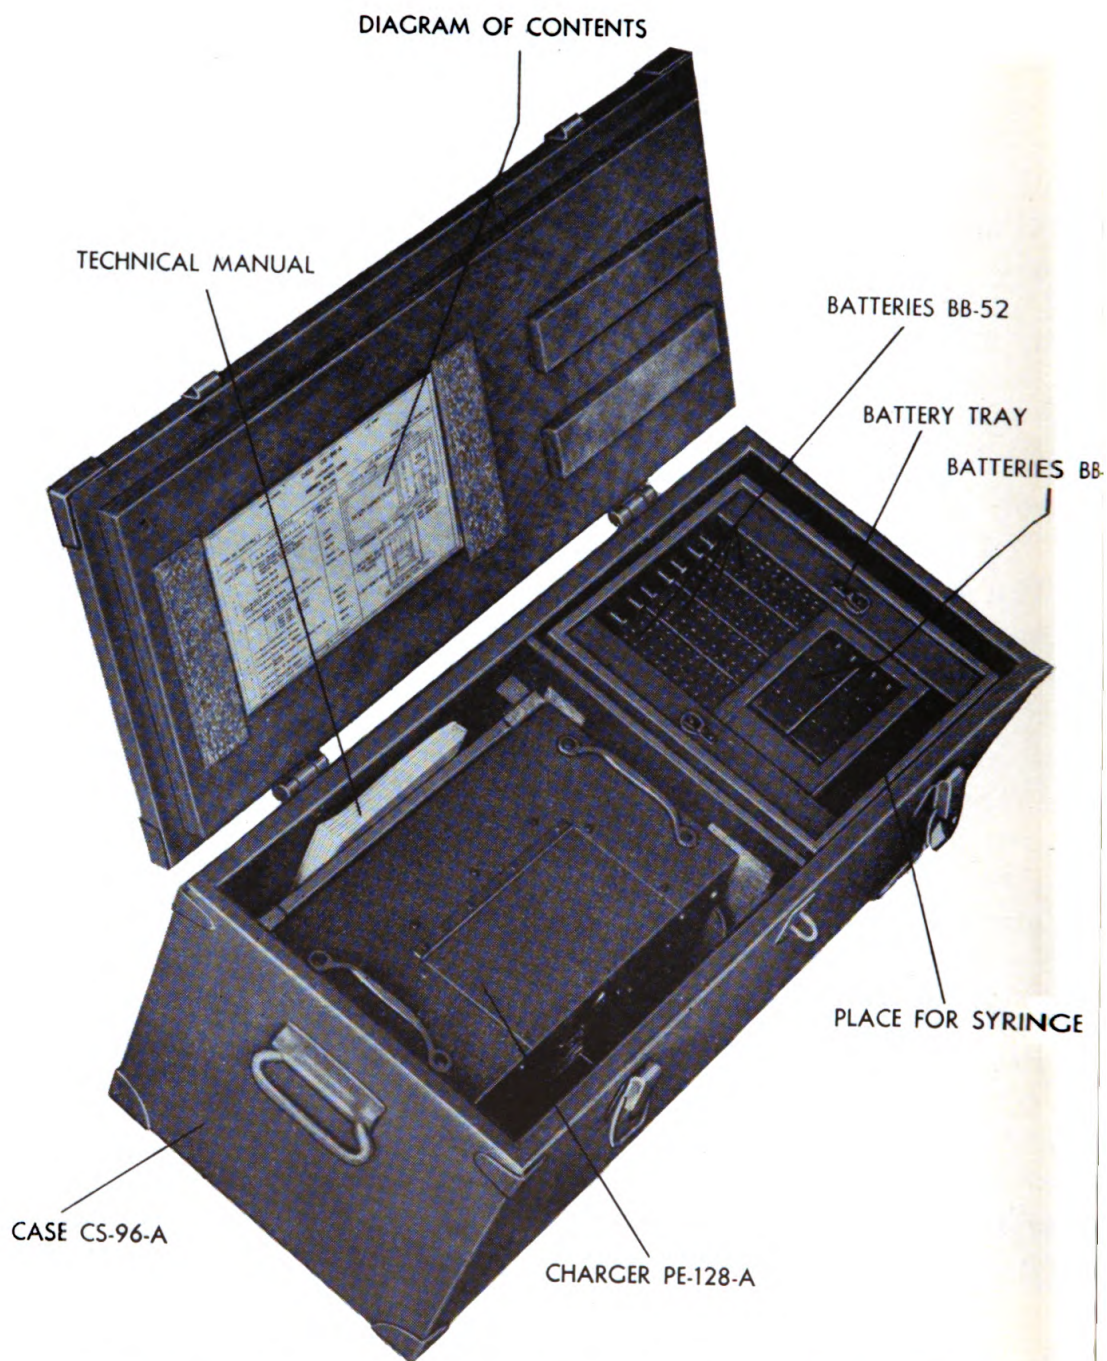

Figure 4. Case CS-96-A, Front View, Lid Open Showing Contents
**6. Case CS-96-A** (figures 4, 6).—Case CS-96-A is a plywood case which houses Battery Charger PE-128-A and accessories. The case has metal-reinforced corners. The rubber strip on which the latched lid rests forms a water-tight seal when the draw bolts are used. A hinge hasp suitable for padlocking is provided.
The interior of the case is divided into compartments for the contents. A removable tray in the upper right-hand side of the case (figure 4) is designed for the six miniature storage batteries. The smallest compartment in the tray is for the hypodermic syringe when it is not packed away in its transit compartment, below the tray. The tray and the compartments below it are coated with an acid-resisting enamel. On the under side of the lid is a list of contents, together with a chart showing how the contents are placed in the case (figure 5). These accessories and spares are in Case CS-96-A: